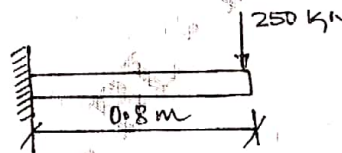

Fig. Q5 (b)
b. A Cantilever beam subjected to a point load of 250 kN as shown in Fig. Q5 (b). Determine the deflection at the free end and support reactions. Take $E = 200 \text{ GPa}$ and $I = 4 \times 10^6 \text{ mm}^4$.